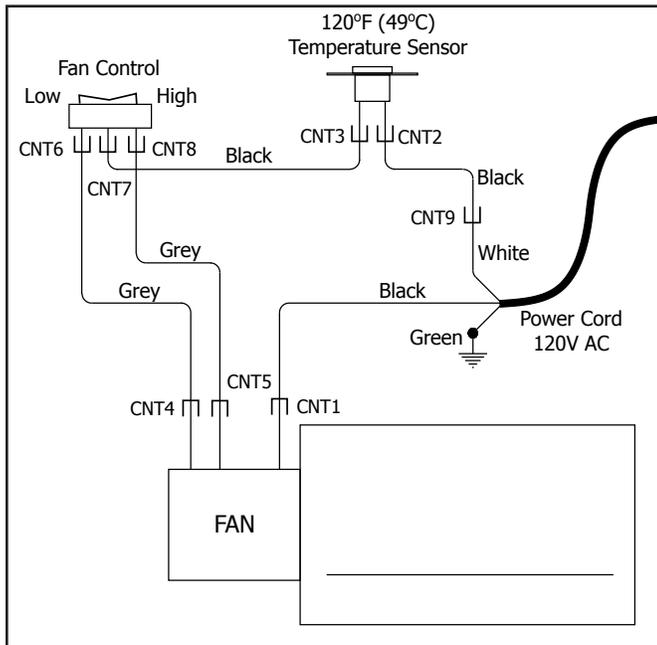

Figure 45: Fan wiring diagram.
3. Ensure the wiring harness assembled according to Figure 45 and is attached to the fan.